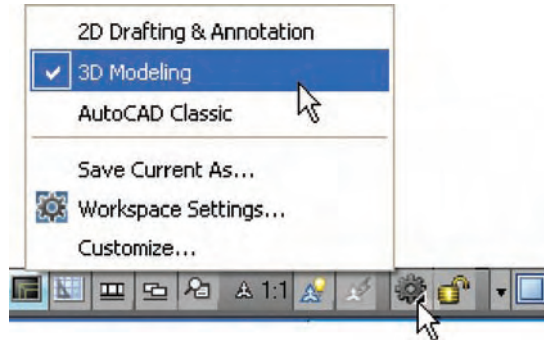

Fig. 15.1 Click 3D Modeling in the Workspace Settings menu
1. Click the **Workspace Switching** button and click **3D Modeling** from the menu which appears (Fig. 15.1).